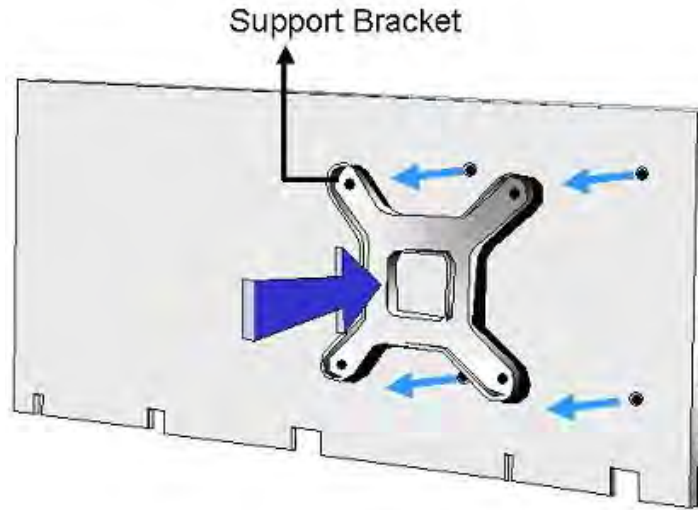

Figure 4-4: Cooling Kit Support Bracket
- Step 3: Secure the cooling kit.** From the solder side of the PCB, align the support bracket to the screw threads on heat sink that were inserted through the PCB holes. (See **Figure 4-4**)